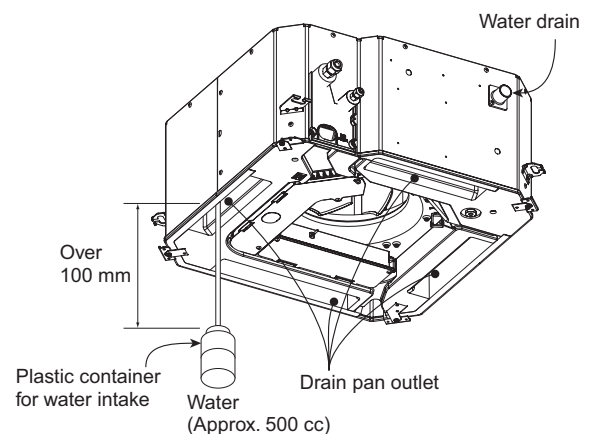

Fig. 2-51
- (1) Connect power to the power terminal board (R, S terminals) inside the electrical component box.
- (2) Slowly pour about 500 cc of water into the drain pan to check drainage. (Fig. 2-51)
- (3) Short the check pin (CHK) on the indoor control board and operate the drain pump. Check the water flow through the transparent drain pipe and see if there is any leakage.
- (4) When the check of drainage is complete, open the check pin (CHK) and remount the tube cover.